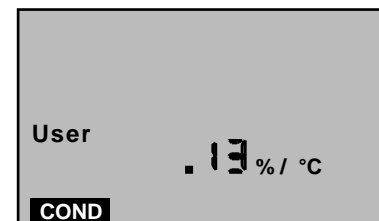

Figure 2
- b. With "USER" mode now selected, press **CAL MCLR**. You may now adjust a temperature compensation from .00%/°C to 9.99%/°C, by pressing **MS** or **MR**. See example in Figure 2.